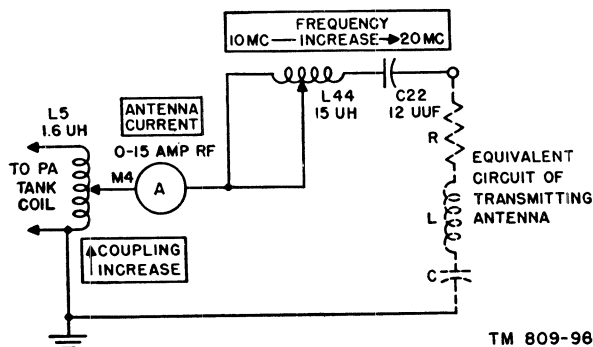

Figure 44. Antenna tuning unit BC-939-B with range switch in 10–20 M-C position, schematic diagram.
c. Figure 44 is a functional schematic diagram of the tuning unit with range switch SW9 set to 10–20 M-C and a whip antenna connected to the unit. From 10 to 12.5 mc the reactance of the antenna is capacitive; from 12.5 to 20 mc the reactance is inductive. At approximately 12.5